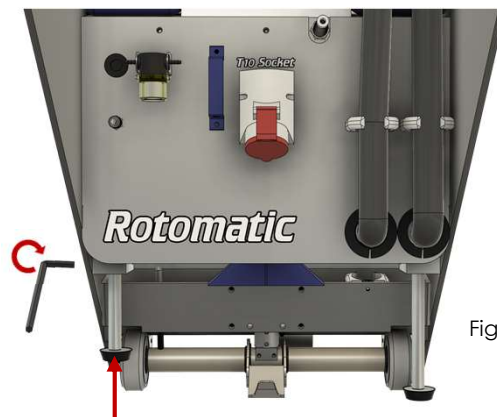

Fig. 6
- Move only the rear left black foot as far up as it will go and lock the adjustment screw, so it does not move anymore. (Fig. 6)
- With the green gliders sitting perfectly flat on the step, you can tighten the 3 adjustment screws that were left loose (all apart from the rear left black foot) (Fig.6).
- Now loosen the rear left black foot adjustment screw as well (Fig.6) to allow the black rubber foot to contact the escalator step and then finally retighten the adjustment screw (Fig.6) to lock it in position.